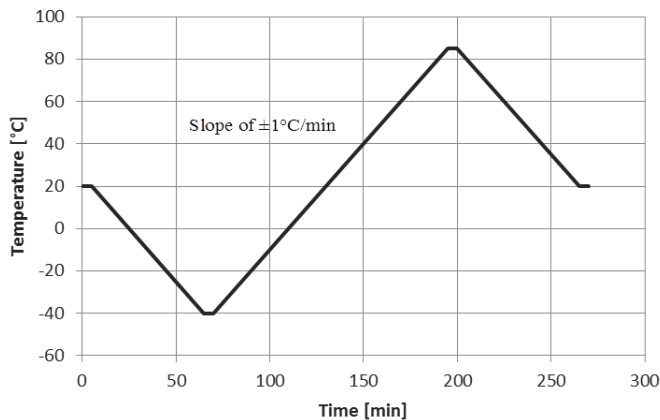

Figure 28: Recommended Temperature profile for calibration
2. Place the sensor on a rate table in a thermal chamber and implement temperature profile according to Figure 28¹